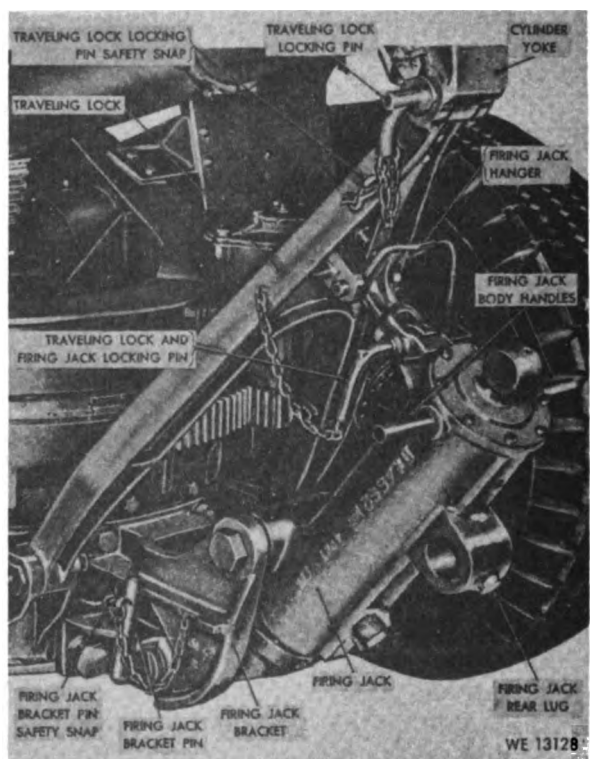

Figure 55. Carriage M1A2 and M32 firing jack and traveling lock—traveling position.
- (9) Raise carriage M1A2 and M32 firing jack as follows:
- (a) Release the firing jack bracket pin safety snap from the firing jack bracket pin and remove the pin from the firing jack bracket (fig. 55). With two men lifting the firing jack body handles, withdraw the traveling lock and firing jack locking pin and raise the firing jack hanger to unlatch it.
limit of its travel. Insert the bracket pin in the holes in the firing jack bracket and firing jack rear lug (fig. 55) and turn the pin one-quarter turn to lock it in place. Snap the safety snap to the bracket pin to keep the pin in its locked position. Insert the traveling lock and firing jack locking pin in the firing jack hanger. Place the firing jack float under the firing jack.
- (c) Release and lower the traveling lock by releasing the traveling lock locking pin safety snap, removing the traveling lock locking pin (fig. 55), and elevating the weapon (para 17).